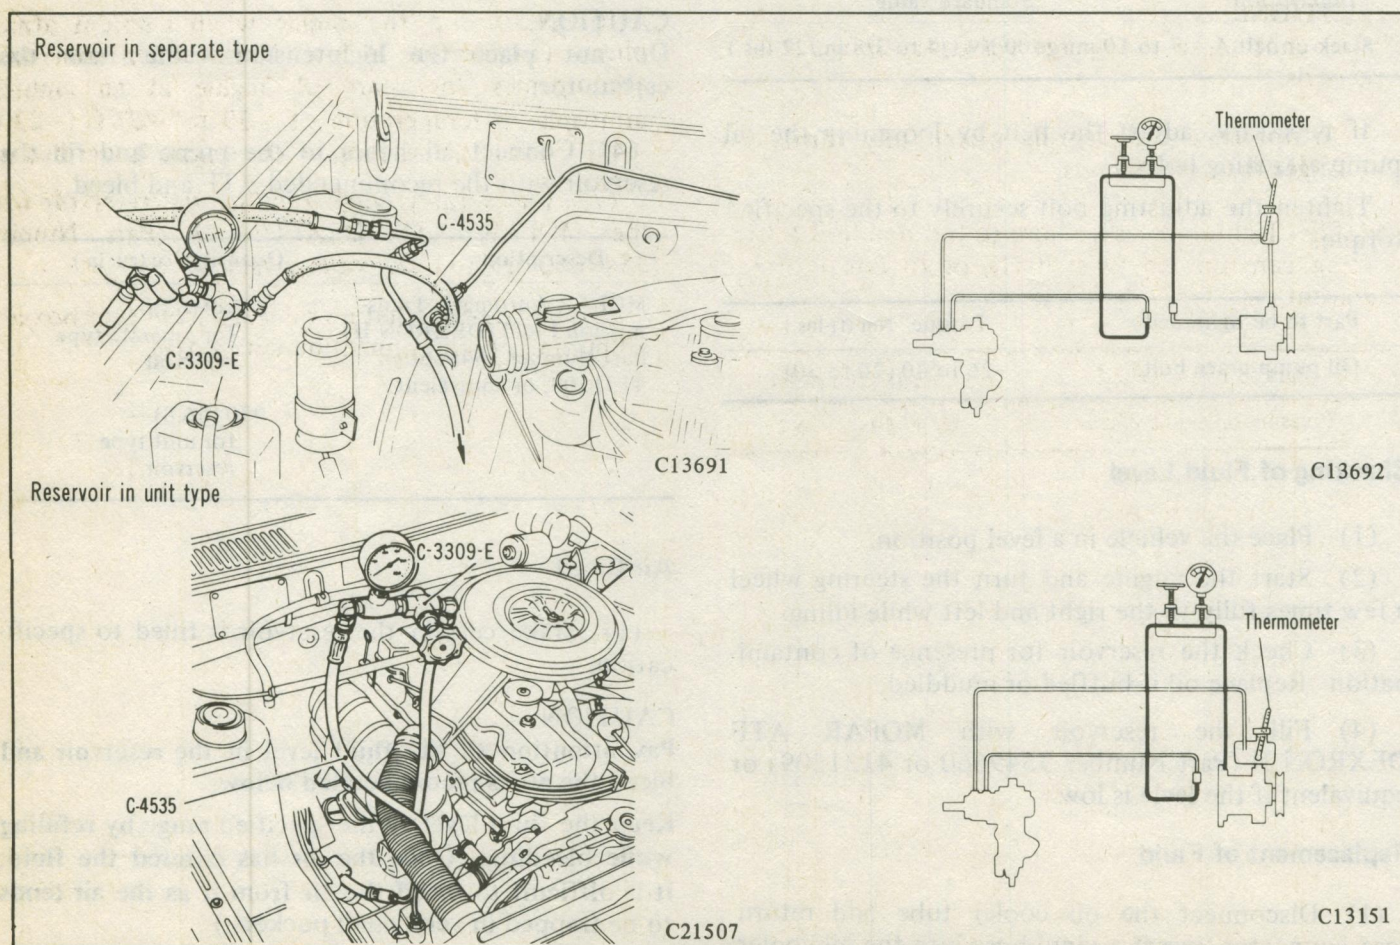

Fig. 43 Oil Pressure Measuring at Oil Pump
(1) Remove the pressure hose of the oil pump, and attach the adapter for connection of the Power Steering Pressure Gauge C-3309-E (Fig. 43).